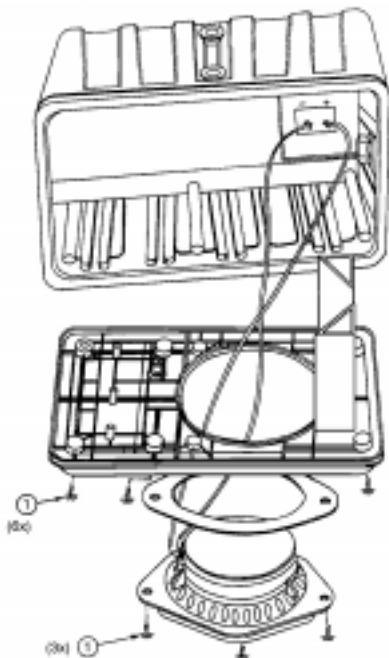

Figure 4. 102® Surface-Mount Baffle Assembly
5.1 Remove the six screws **(1)** that hold the baffle in place. Do not remove the three screws holding the driver in place. **(See Figure 4)**